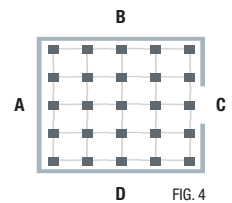

FIG. 4
- 4 Place the cradles around the perimeter on all the marked points, ensuring a 10mm gap is maintained between the wall and the cradle edge, and at each chalk line intersection (Fig. 4).